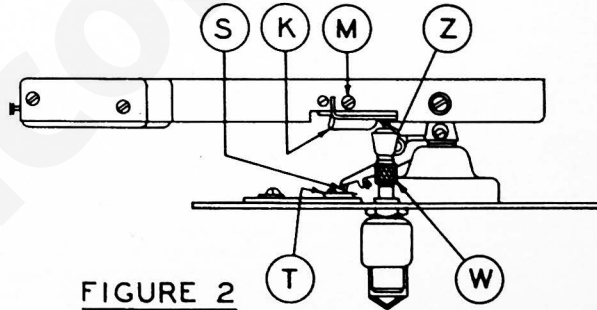
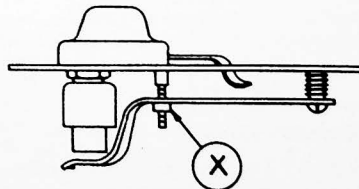

FIGURE 2
FIGURE 4
When eccentric or oscillating trip groove records are used, tripping is effected by means of the hardened steel pin in the end of tone arm lift crank at (S) Fig. 2 engaging the serrated block on the trip lever at (T) Fig. 2. There must be a minimum of 1/32" play between the end of the pin and the block, when, with a short needle, (5/8" Minimum Length) the pickup is resting on one record on the turntable. If the pressure of the pin on the block is not sufficient to insure operation, then check the pressure spring which is located up under the pickup.
If the pickup descends too fast or too slow, adjust the speed of descent by turning the knurled thumb nut on the dashpot sleeve at (W) Fig. 2.
The unit is adjusted at the factory so that the needle will be set down approximately 3/32" in from the edge of the record. An adjusting screw is provided on the side of the pickup at (M) Fig. 2. If the needle is being lowered onto the playing surface of the record, and the adjusting screw at (M) Fig. 2 fails to correct the condition proceed as follows: First stop the record changer, with the pickup in the maximum raised position and check the clearance
between the underside of the pickup shelf at (Z) Fig. 2 and the tip of the dashpot. This clearance should be very small as otherwise the pickup will tend to bounce as it is lowered. There must be sufficient clearance however to prevent the pickup shelf from rubbing on the tip of the dashpot, or the pickup will not swing out far enough to allow the adjustable stop at (K) Fig. 2 to come to rest against the dashpot. Check this clearance in both 10" and 12" record positions. If adjustment is required, the height of the dashpot may be regulated by loosening the nuts on the bottom of the lift lever stud at (X) Fig. 4 and changing their position on the stud. To raise the dashpot turn the nuts clockwise, to lower the dashpot turn the nuts counter-clockwise. Be sure to lock the nuts tightly together after the adjustment is made.